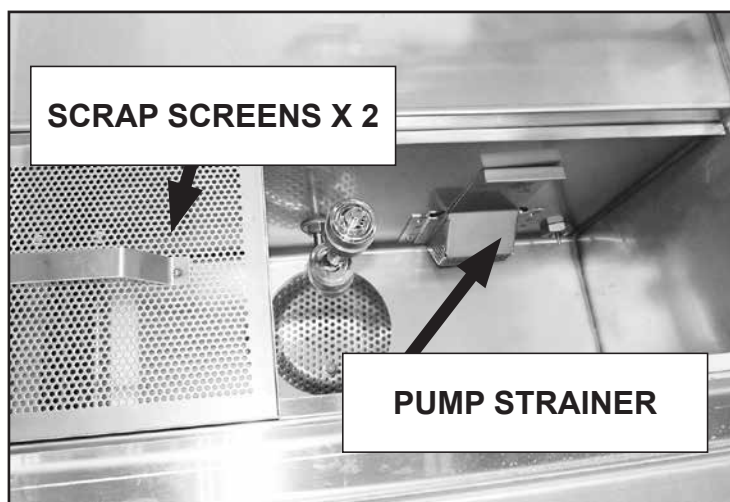

Fig. 1 - Scrap screens and pump strainer
1. Install the pump strainer in guide rails, (Fig.1).
3. Install the two scrap baskets, (Fig. 1).